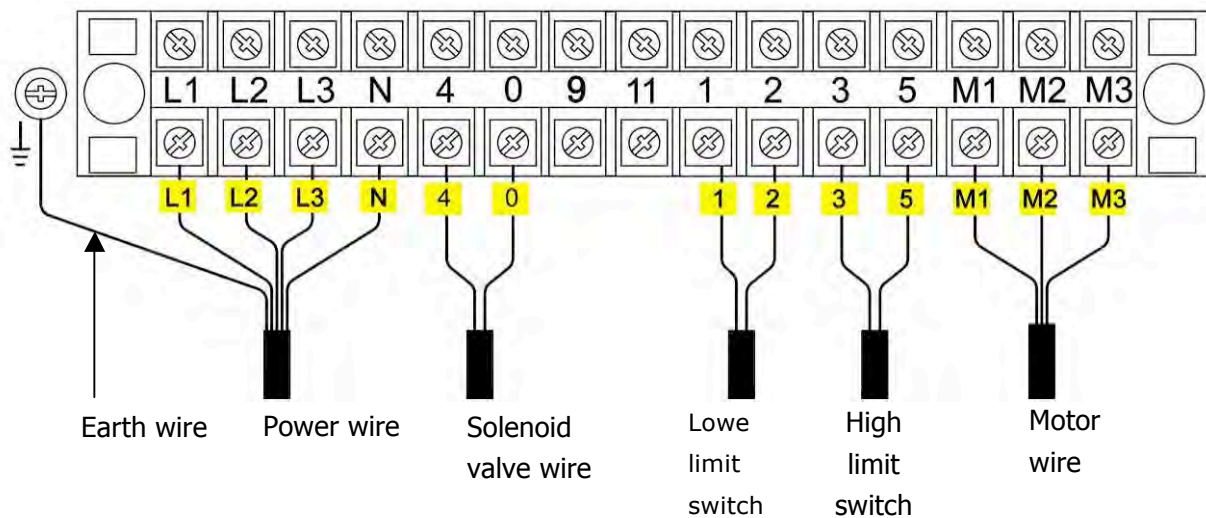

Fig.30
3.1 Wire connection diagram in the control box (See Fig. 30)